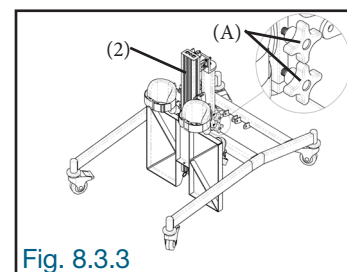

Fig. 8.3.3
8.3.3 Tighten the knobs (A) on the frame (2) firmly (Fig. 8.3.3).